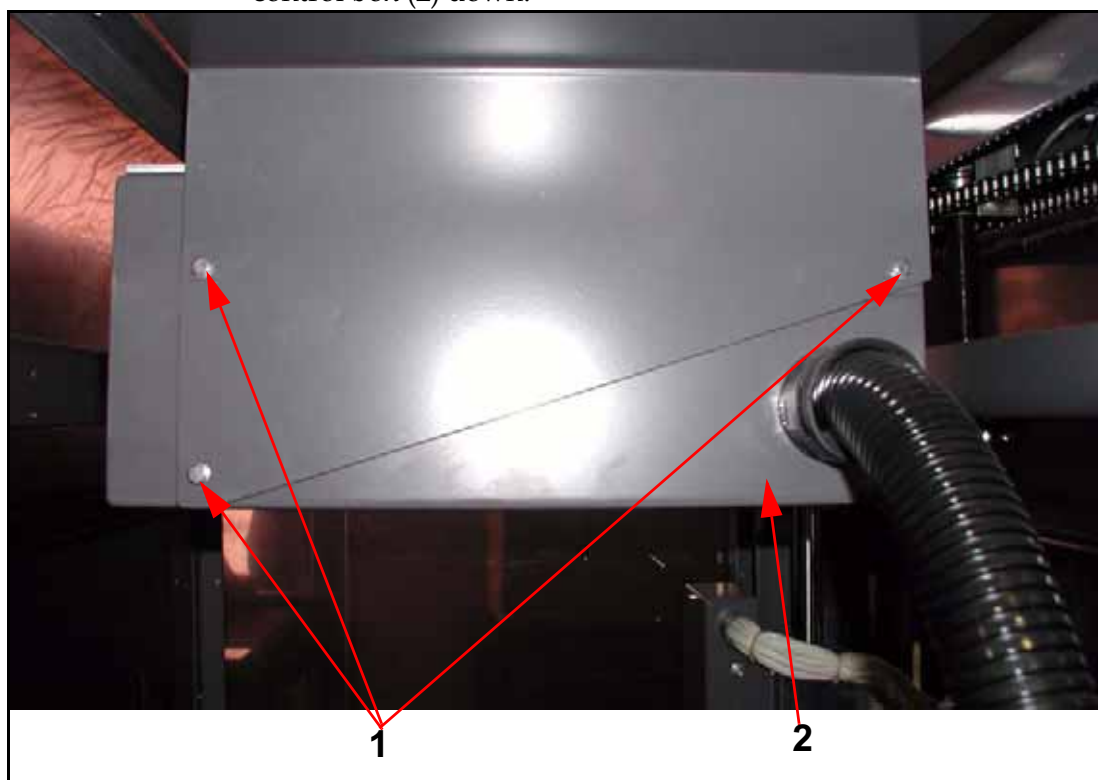

Figure 4-8. Control Box Screws
- 11 Remove control panel box screws (1 in Figure 4-8) and carefully set control box (2) down.